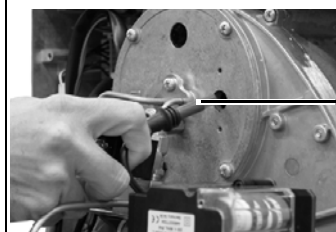

Fig. 12
- 4 when the EVG lamp turns to on (see chapter page 17) remove the photoresistor **FR** (Fig. 12) from its slot and light it up;
- 7 replace the photoresistor **FR** (Fig. 12) into its slot;